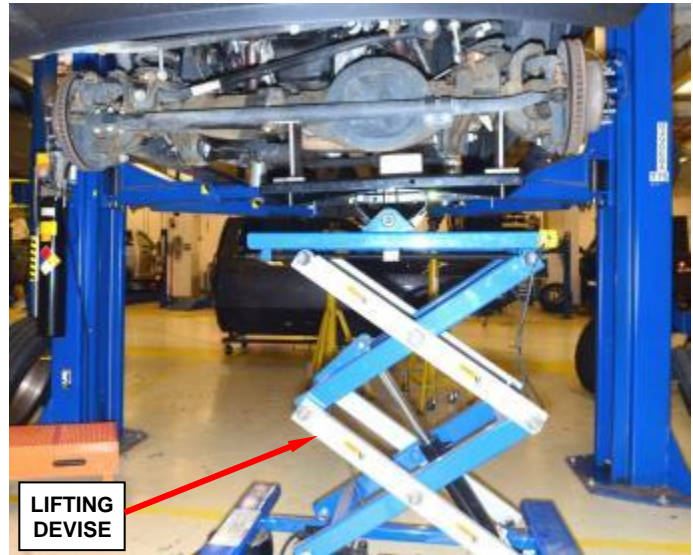

Figure 36 – Secure Axle to Lifting Device
14. Secure the front axle to a lifting device (Figure 36).